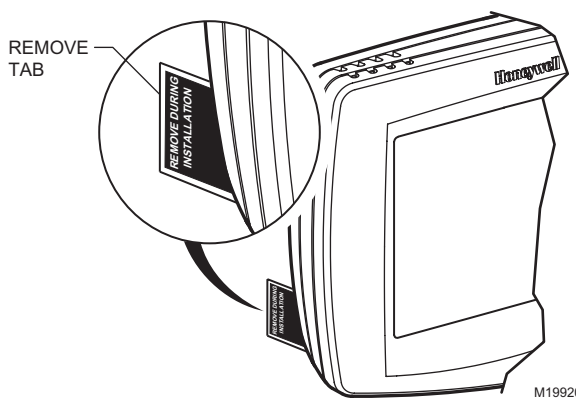

Fig. 21. Remove tab labeled, Remove, on thermostat back
1. Locate and remove the tab labeled, Remove, in the lower left corner on the thermostat back. See Fig. 21.